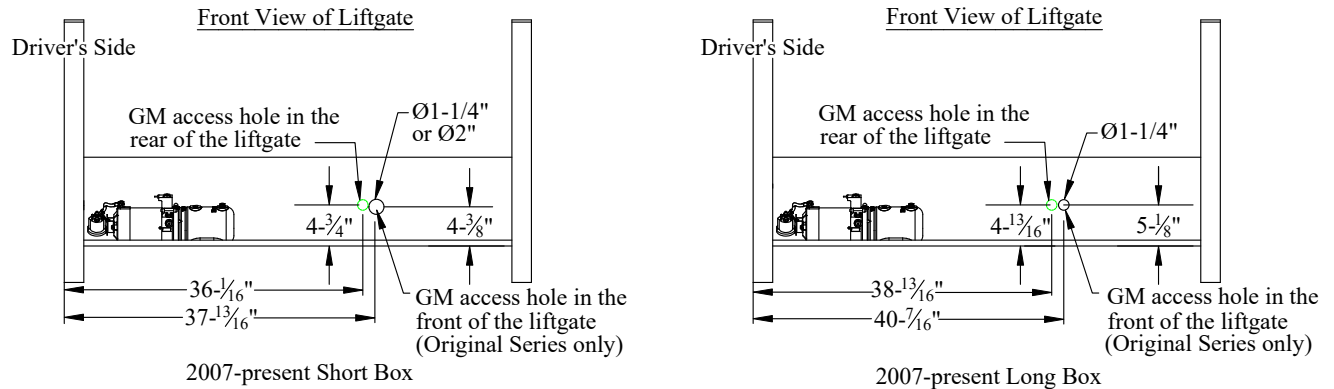

Figure 12: Spare tire access holes.
2. **Remove and Discard** the black plastic plug(s) from the mainframe at the location shown (Figure 12).